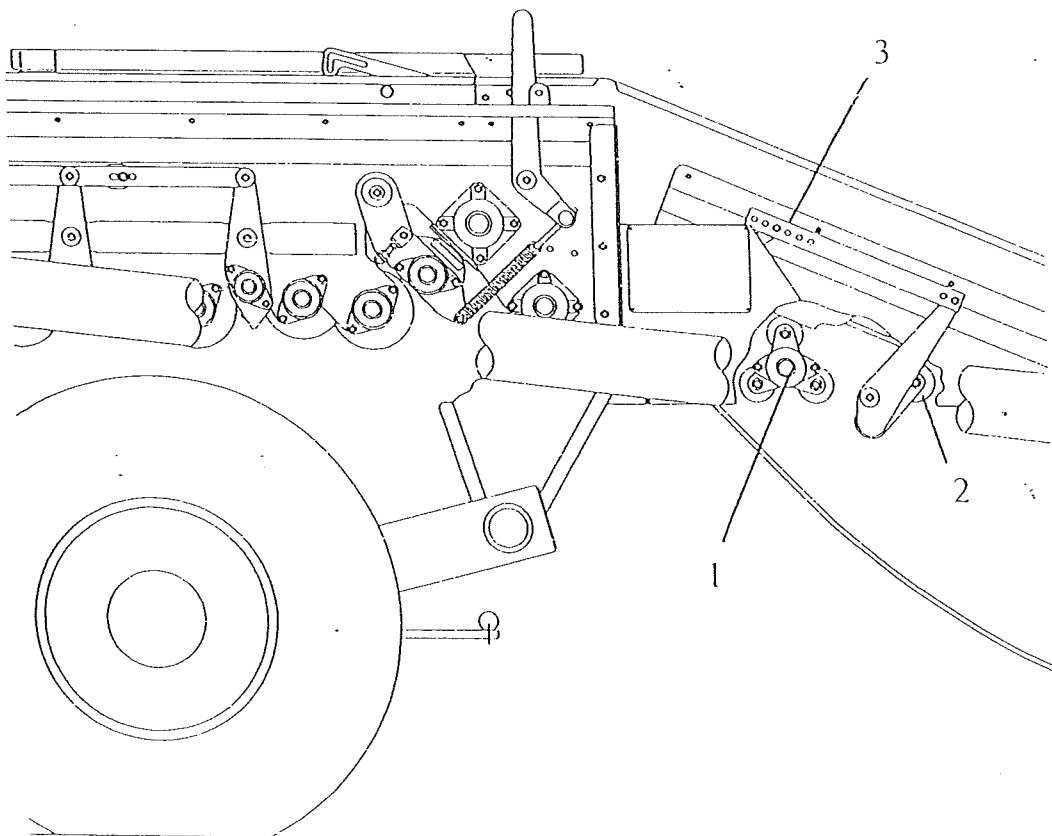

Fig 7.4
A rotating agitator is fitted inside the main web and is mechanically driven. (fig 7.4 item 1). Mounted in front of the agitator are control rollers for adjusting the amount of agitation imparted to the crop (fig 7.4 item 2). Raising the control rollers will lift the web away from the agitator, lowering the control rollers will lower the web onto the agitator. The higher the web is lifted the less effect the agitator will have on the crop flow.
The control rollers are adjusted by bolting an arm in one of a series of holes (fig 7.4 item 3). Set the control rollers to the desired position and ensure all nuts and bolts are re-tightened.